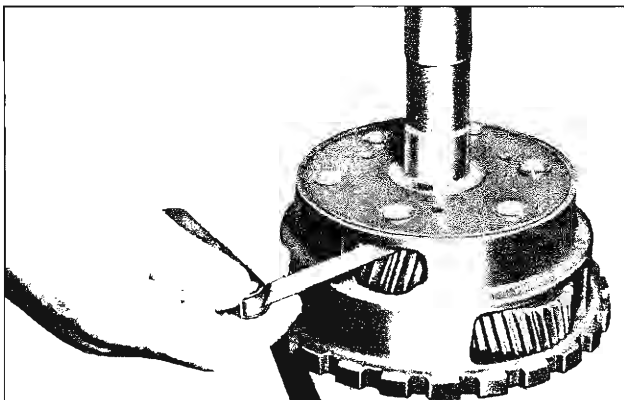

Fig. 28PG—Checking Planet Gear End Clearance
24. Check end clearance of planet gears. This clearance should be .006"-.030" (fig. 28PG).